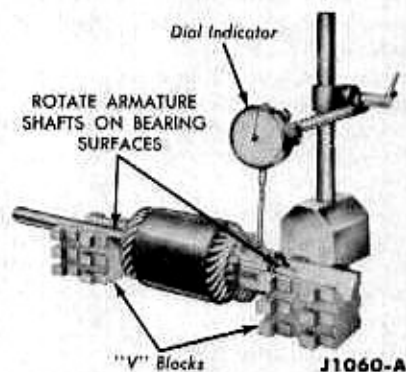

FIG. 15—Commutator Runout Check
4. Check the commutator for run-out (Fig. 15). Inspect the armature shaft and the two bearings for scoring and excessive wear.
Check the commutator runout as shown in Fig. 15. If the surface of the commutator is rough or more than 0.002 inch out-of-round, turn it down.